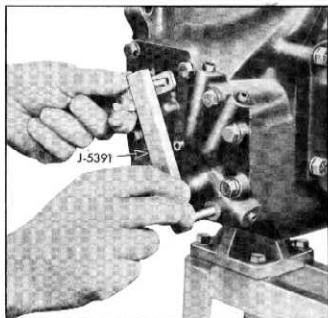

Fig. 205—Adjusting Throttle Valve Linkage and Outer Lever
- Rotate the throttle valve control outer lever assembly clockwise to the closed throttle position (to a definite stop). Hold in this position and, using throttle valve outer lever positioning gauge, J-5391, measure the distance between the open hole in the drive valve body cover and the hole in the outer lever (fig. 205). If the large pin of this gauge will go in the open hole in the cover and the small pin in the hole in the lever the adjustment is correct. If not, loosen lever to clamp attaching bolt and adjust accordingly.